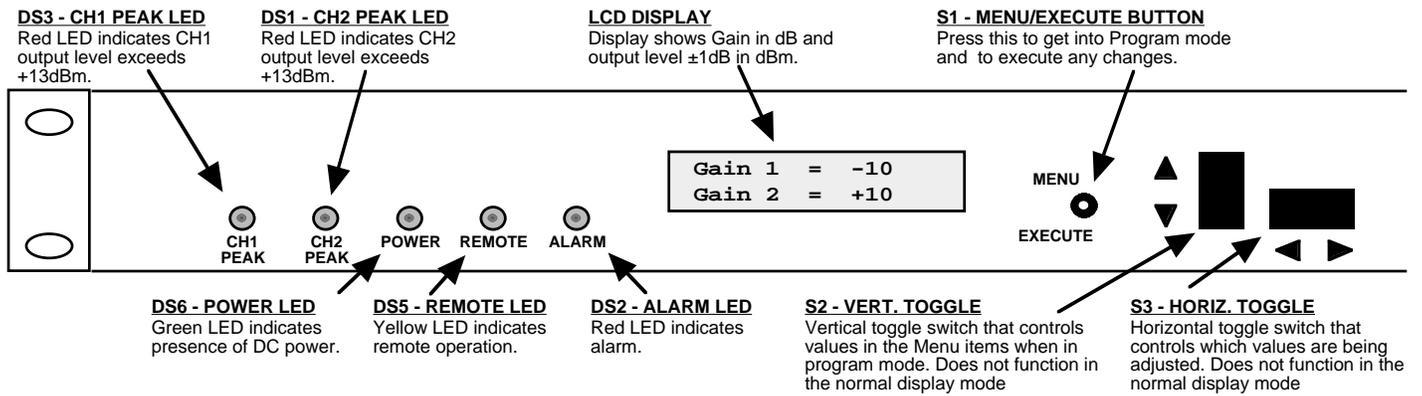

FIGURE 2.3 Front Panel Controls and Indicators
2.3 Front Panel Controls and Indicators - Figure 2.3 shows the front panel controls and indicators.
5. Be sure DS6 (green, DC Power) is on and DS2 (red, Alarm) is off (Figure 2.3).
6. To insure that CH1 and CH2 amplifiers are not being overloaded check that CH1 PEAK and CH2 PEAK LEDs, DS3 and DS1, are off (Figure 2.3).
Alarm indications appear on the LEDs (see figure 2.3).